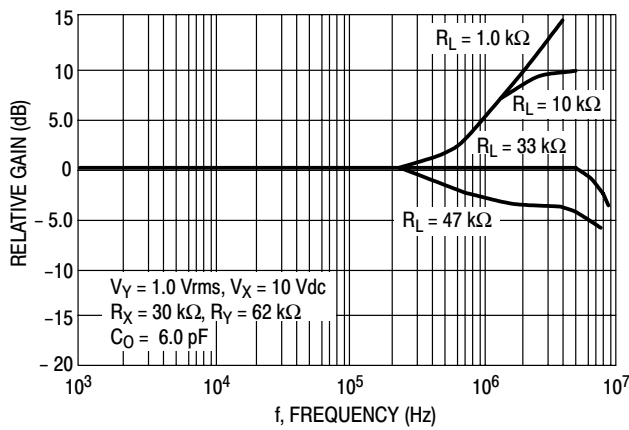
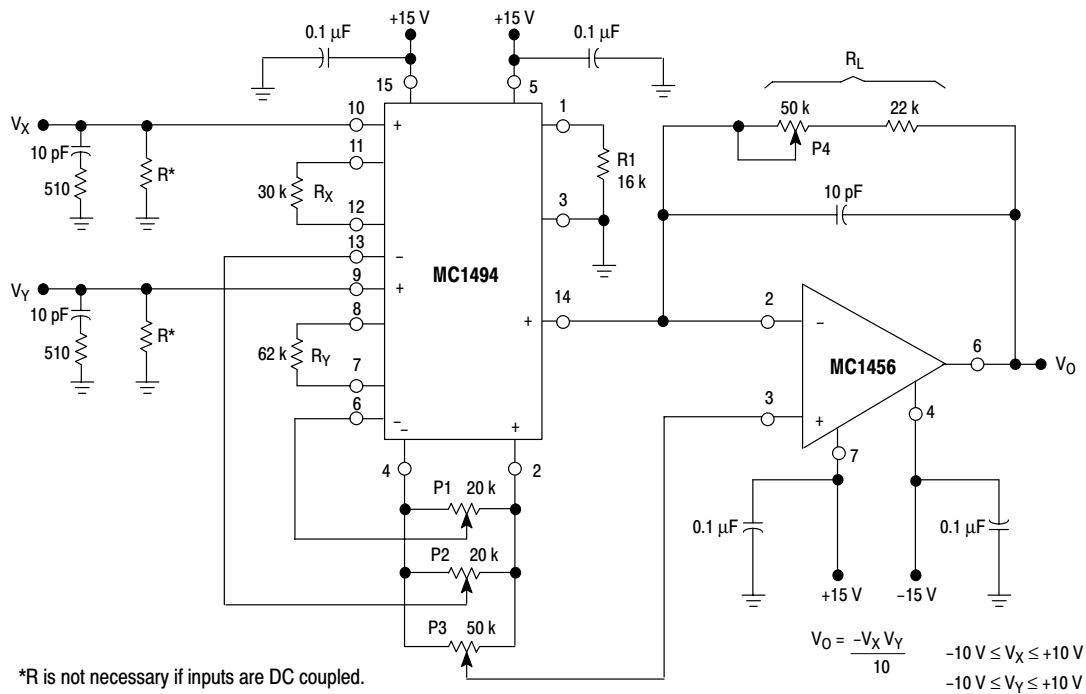
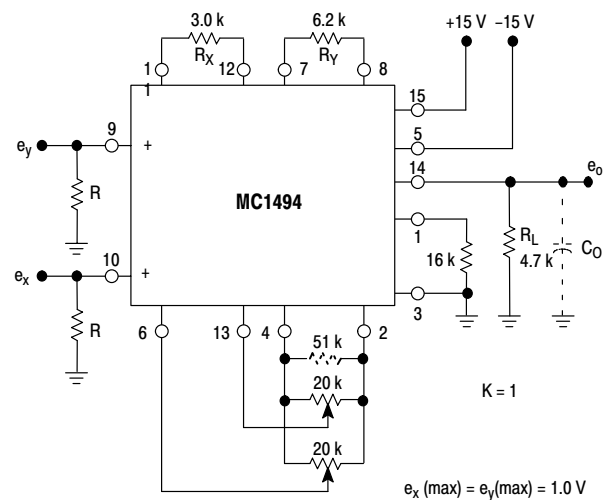

Figure 11. Frequency Response of Y Input versus Load Resistance
Figure 18. Typical Multiplier Connection
Figure 19. Wideband Multiplier
The output current can be easily converted to an output voltage by placing a load resistor R_L from the output (Pin 14) to ground (Figure 19) or by using an op amp as a current-to-voltage converter (Figure 18). The result in both circuits is that the output voltage is given by:
For low frequency operation the circuit of Figure 18 is recommended. For this circuit, $R_X = 30$ kΩ, $R_Y = 62$ kΩ, $R_1 = 16$ kΩ and, hence, $I_1 \approx 0.5$ mA. Therefore, to set the scale factor (K) equal to 1/10, the value of R_L can be calculated to be:
Thus, a reasonable accuracy in scale factor can be achieved by making R_L a fixed 47 kΩ resistor. However, if it is desired that the scale factor be exact, R_L can be comprised of a fixed resistor and a potentiometer as shown in Figure 18.
The selection of R_L is arbitrary and can be chosen after resistors R_X and R_Y are found. Note in Figure 18 that R_Y is 62 k Ω while R_X is 30 k Ω . The reason for this is that the “Y” side of the multiplier exhibits a second order nonlinearity whereas the “X” side exhibits a simple nonlinearity. By making the R_Y resistor approximately twice the value of the R_X resistor, the linearity on both the “X” and “Y” sides are made equal. The selection of the R_X and R_Y resistor values is dependent upon the expected amplitude of V_X and V_Y inputs. To maintain a specified linearity, resistors R_X and R_Y should be selected according to the following equations:
The operational amplifier connection in Figure 18 is a simple but extremely accurate current-to-voltage
Since the MC1494 is capable of operation at much higher frequencies than the op amp, the frequency characteristics of the circuit in Figure 18 will be primarily dependent upon the operational amplifier.
The input offset adjustment potentiometers, P1 and P2 will be necessary for most applications where it is desirable to take advantage of the multiplier's excellent linearity characteristics. Depending upon the particular application, some of the potentiometers can be omitted (see Figures 19, 21, 24, 26 and 27).
The adjustment procedure for the circuit of Figure 18 is:
The MC1494 multiplier, like most linear ICs, requires a DC bias current into its input terminals. The device cannot be capacitively coupled at the input without regard for this bias current. If inputs V_X and V_Y are able to supply the small bias current ($\approx 0.5 \mu\text{A}$) resistors R can be omitted (see Figure 18). If the MC1494 is used in an AC mode of operation and capacitive coupling is used the value of resistor R can be any reasonable value up to 100 k Ω . For minimum noise and optimum temperature performance, the value of resistor R should be as low as practical.
When long leads are used on the inputs, oscillation may occur. In this event, an RC parasitic suppression network similar to the ones shown in Figure 18 should be connected directly to each input using short leads. The purpose of the network is to reduce the "Q" of the source–tuned circuits which cause the oscillation.
For AC operation, such as balanced modulation, frequency doubler, AGC, etc., the op amp will usually be omitted as well as the output offset adjust potentiometer. The output offset adjust potentiometer is omitted since the output will normally be AC coupled and the DC voltage at the output is of no concern providing it is close enough to zero volts that it will not cause clipping in the output waveform. Figure 19 shows a typical AC multiplier circuit with a scale factor $K \approx 1$. Again, resistor R_X and R_Y are chosen as outlined in the previous section, with R_L chosen to provide the required scale factor.
The bandwidth of the MC1494 is primarily determined by two factors. First, the dominant pole will be determined by the load resistor and the stray capacitance at the output terminal. For the circuit shown in Figure 19, assuming a total output capacitance (C_O) of 10 pF, the 3.0 dB bandwidth would be approximately 3.4 MHz. If the load resistor were 47 k Ω , the bandwidth would be approximately 340 kHz.
Secondly, a “zero” is present in the frequency response characteristic for both the “X” and “Y” inputs which causes the output signal to rise in amplitude at a 6.0 dB/octave slope at frequencies beyond the breakpoint of the “zero”. The “zero” is caused by the parasitic and substrate capacitance which is related to resistors R_X and R_Y and the transistors associated with them. The effect of these transmission “zeros” is seen in Figures 11 and 12. The reason for this increase in gain is due to the bypassing of R_X and R_Y at high frequencies. Since the R_Y resistor is approximately twice the value of the R_X resistor, the zero associated with the “Y” input will occur at approximately one octave below the zero associated with “X” input. For $R_X = 30 \text{ k}\Omega$ and $R_Y = 62 \text{ k}\Omega$, the zeros occur at 1.5 MHz for the “X” input and 700 kHz for the “Y” input. These two measured breakpoints correspond to a shunt capacitance of about 3.5 pF. Thus, for the circuit of Figure 19, the “X” input zero and “Y” input zero will be at approximately 15 MHz and 7.0 MHz respectively.
From this brief discussion, it is evident that for AC applications; (1) the value of resistors R_X , R_Y and R_L should be kept as small as possible to achieve maximum frequency response, and (2) it is possible to select a load resistor R_L such that the dominant pole (R_L , C_O) cancels the input zero (R_X , 3.5 pF or R_Y , 3.5 pF) to give a flat amplitude characteristic with frequency. This is shown in Figures 11 and 12. Examination of the frequency characteristics of the “X” and “Y” inputs will demonstrate that for wideband